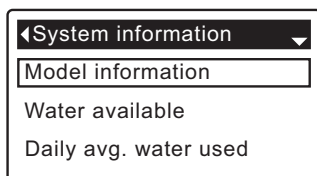

FIG. 54
3. Press the OK/MENU button to display the System information menu (See Figure 54).
7. When finished viewing an information screen, press the OK/MENU button. The display will go back to the System information menu (Figure 54). It will also exit automatically if no buttons are pressed for four minutes.